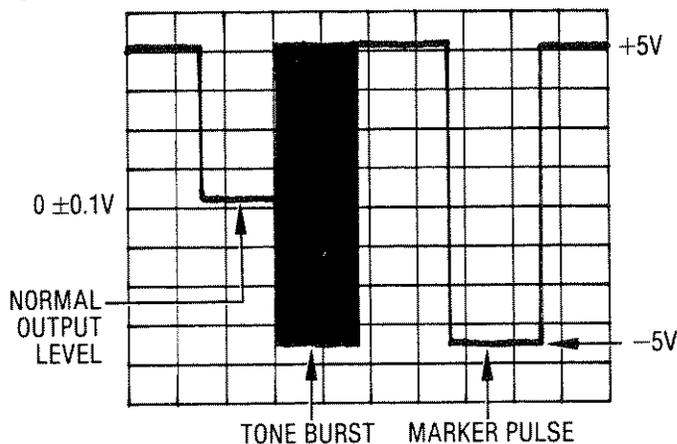

Figure 5-46. Marker Waveform
11. Using the GND on channel 1 of the oscilloscope, set a reference for normal output level (see Figure 5-46).